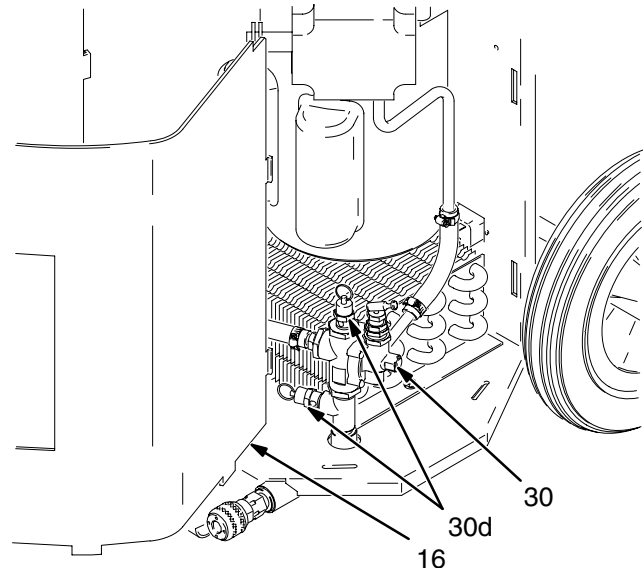

Fig. 10
- A compressor unloader valve (30) with two pressure relief valves (30d) is located under the compressor guard (16). Air escapes from the valve, causing a popping sound, when air flow at the gun is too restricted. The valve resets automatically when the air flow is increased. See Fig. 10.